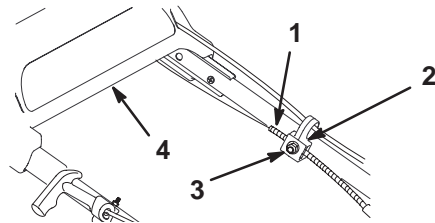

Figure 20
3. Loosen the cable support nut (Fig. 20).
6. Pull the cable jacket down (toward the lawn mower) to remove all the slack in the cable (Fig. 20).
7. While holding the cable jacket down, release the drive bracket and tighten the nut on the cable support (Fig. 20).